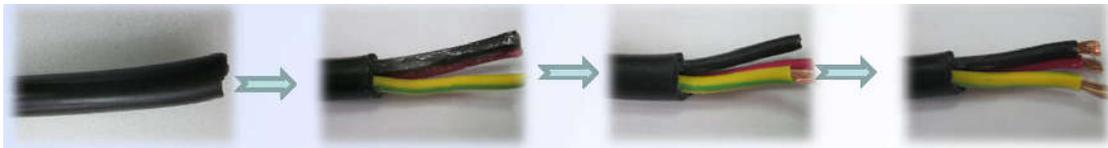

Figure 4-10
- Strip the jacket of cable(40±1mm) and strip the insulation(7.5±0.5mm), see Figure 4-10.